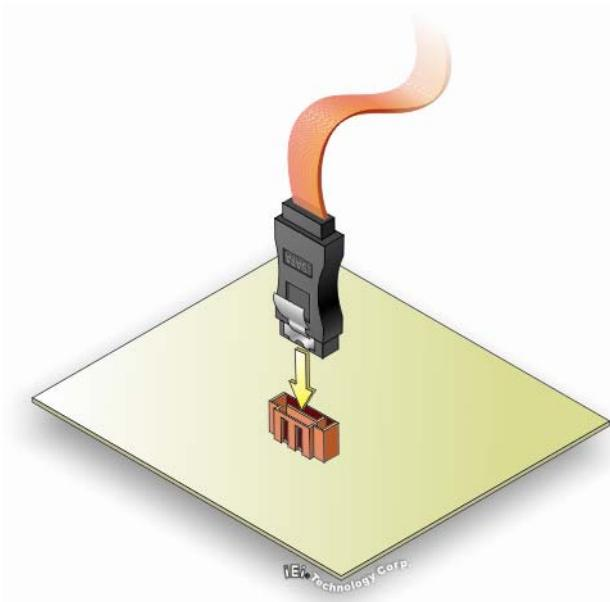

Figure 4-8: SATA Drive Cable Connection
Step 2: Insert the cable connector. Insert the cable connector into the on-board SATA drive connector. See **Figure 4-8**.